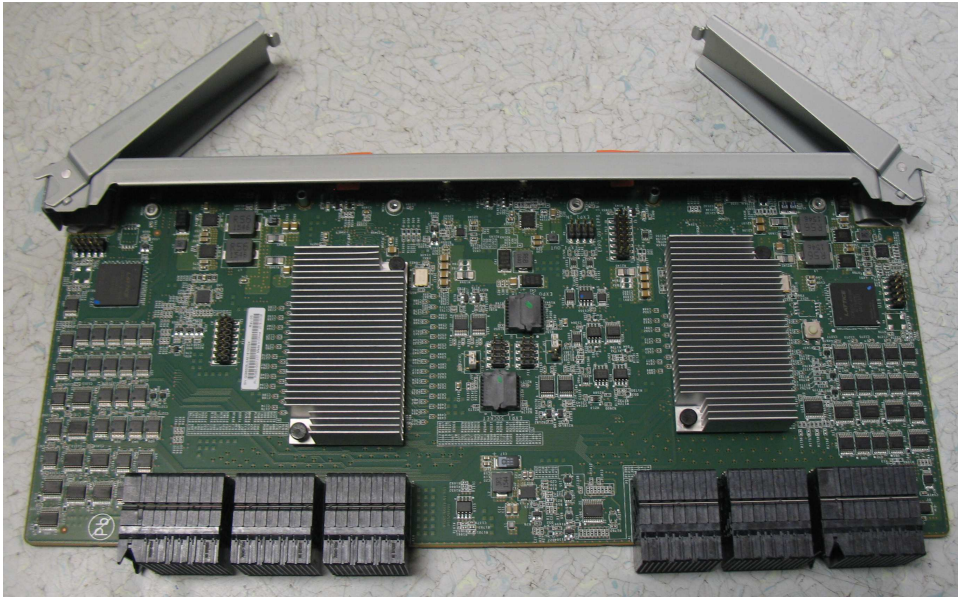

Figure 97. Secondary expander module removed from the enclosure
5. Place the secondary expander module in a safe location, as shown in Figure 97 on page 105.